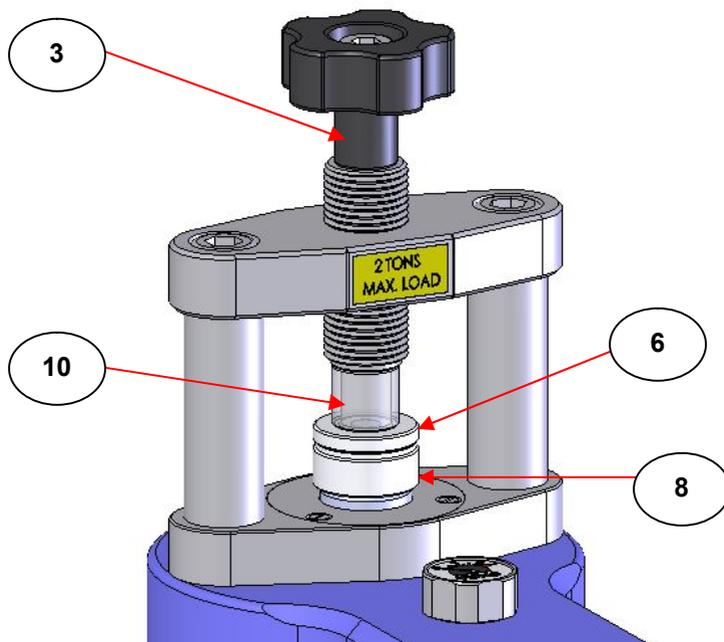

Fig 8. 7mm Pellet Die Ring Holder, Top Anvil and Extractor Cap Assembly in Position for KBr Pellet Extraction
Take the die ring holder (6) with KBr pellet and place the plunger of the top anvil (8) into the aperture hole on one side of the die ring holder (6). Place this combined assembly with the Perspex extractor cap (10) in contact with other side of the die ring holder (6) into the Mini-Pellet Press pressing area (2) as shown in Fig 8. Make sure that this assembly of parts is placed centrally between the lead screw pressing face (12) and the piston surface (11).